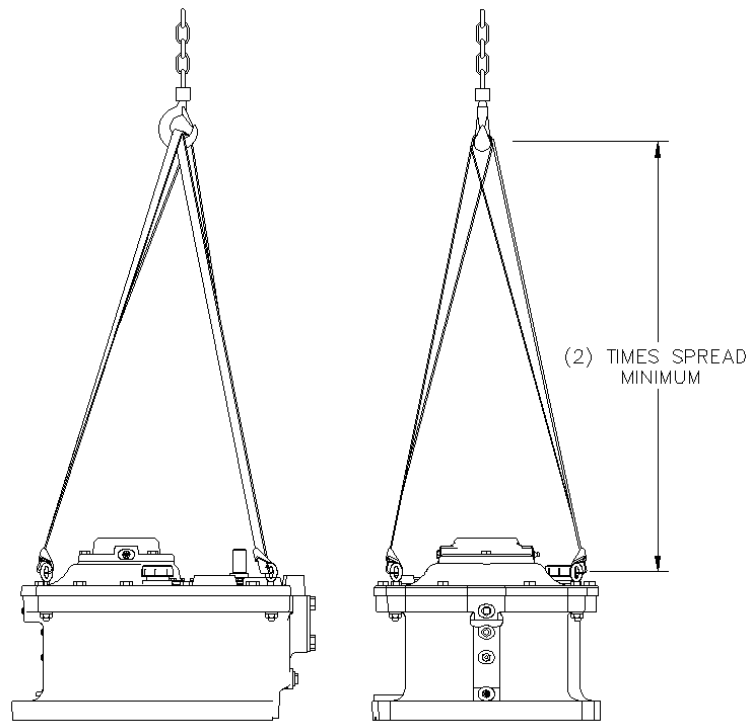

Figure 9. Agitator Lifting System
2. Remove all shipping restraints. A hoist or crane system for the lifting of the agitator parts must be available. Refer to Figure 9, page 27 for lifting instructions. The approximate net weight of the unit is shown on the unit assembly drawing. Since gear drives are typically supplied with the motor un-mounted, always verify that the motor being mounted is correct for the gear drive by checking the assembly drawing.